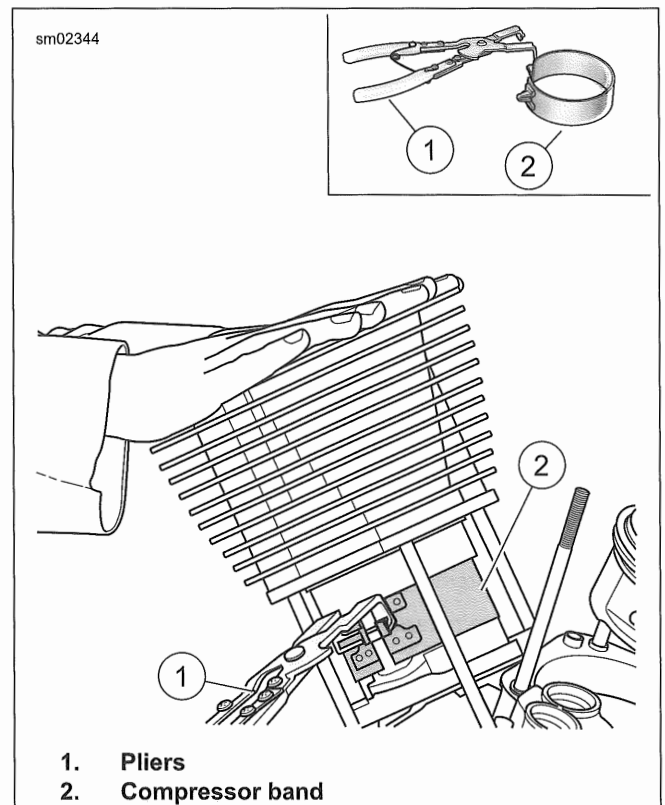

Figure 4-37. Piston Ring Compressor
5. See Figure 4-37. Install cylinder using PISTON RING COMPRESSOR (PART NUMBER: HD-96333-51F).